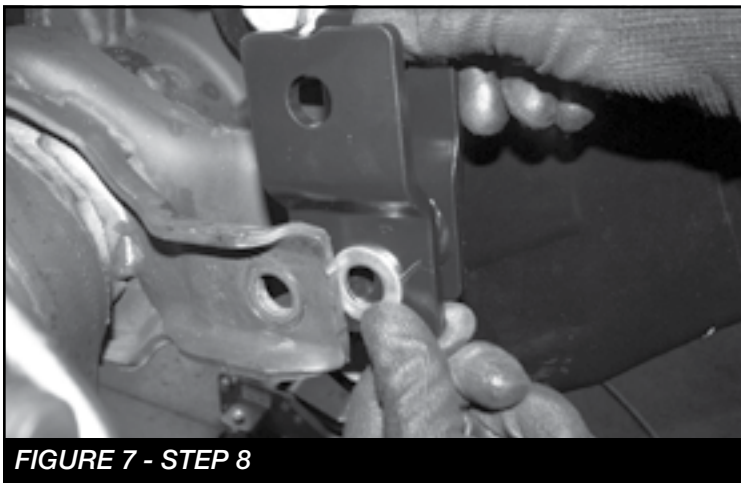

FIGURE 7 - STEP 8
8. Locate the FT30580BK (driver shock extension), using the factory lower shock hardware, install the shock extension into the factory lower shock mount. **NOTE: See figure 7 for proper offset. The offset needs to be going away from the vehicle. Insert a supplied M14 washer between the factory and new Fabtech brackets.** Torque to 160 ft-lbs. **NOTE: If installing a Dirt Logic shock do not install lower shock extension. Install the Dirt logic directly into the factory mounts using the M14 washers to fill in the gap on the lower mount. SEE FIGURES 7-8**